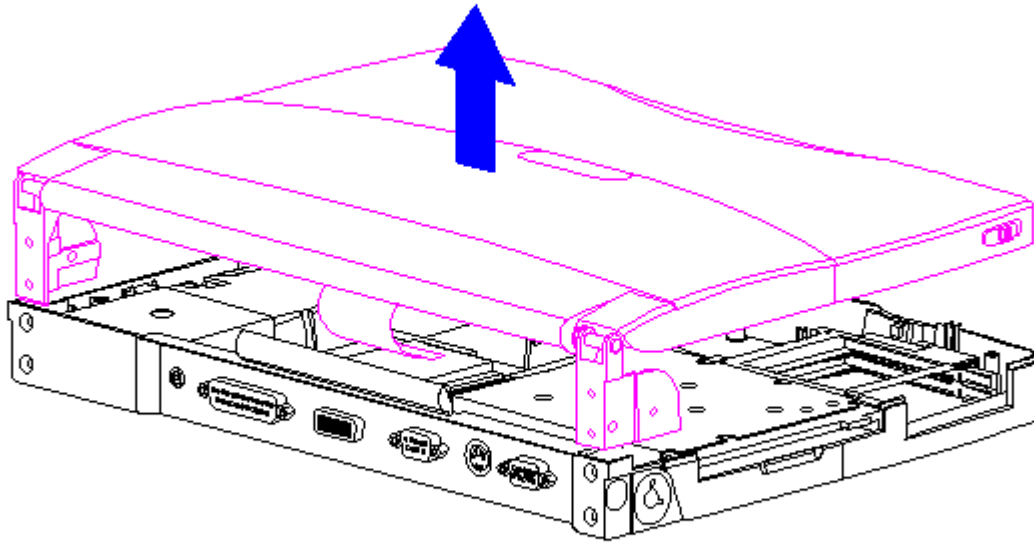

Figure 3-72. Removing the Display Assembly (All Models)
8. Remove the display assembly from the system unit module (Figure 3-72).